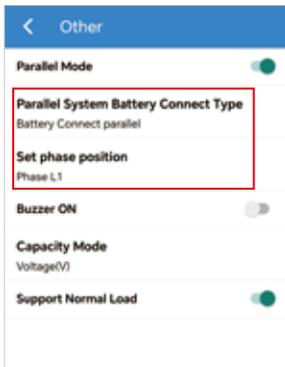

Figure 4-9 Inverter 1-Phase L1
- Go to Console > Hybrid Setting > Other to enable parallel mode, and then select the appropriate battery connection type and phase position. All inverters in the system should be configured with these parameters, as shown in *Figure 4-9&4-10*.